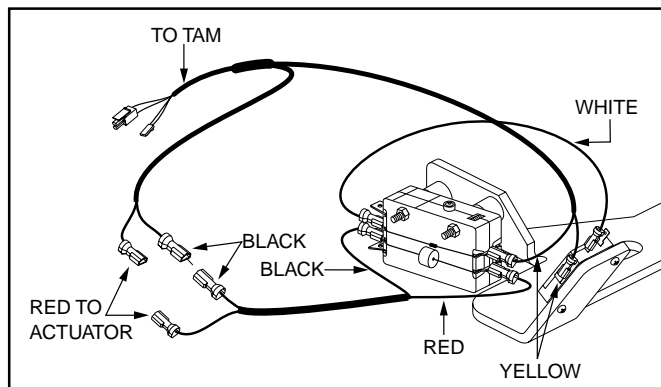

Figure 4.48. Dynamic Switch Harness Connections
- Make sure all of the harness connections are connected correctly. See figure 4.48 for correct harness installation.